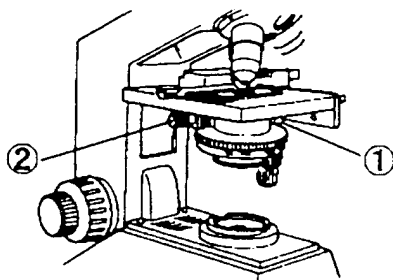

Figure-1
- Turn the KNOB ① of condenser counter-clockwise, and remove the condenser by moving it downwards with the ADJUSTMENT KNOB ②. Figure-1